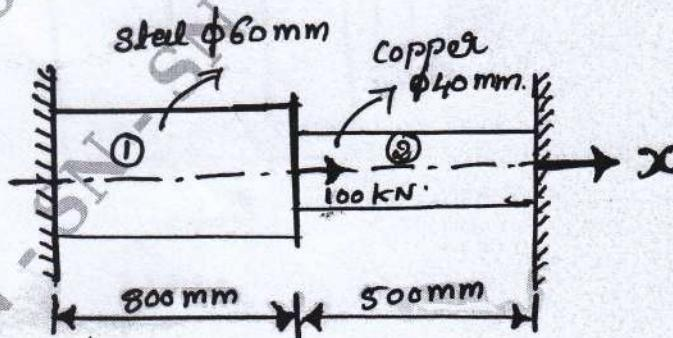

Fig Q3(b)
- b. A compound bar is loaded as shown in Fig Q3(b)  $E_{Steel} = 200\text{GPa}$ ,  $E_{CU} = 100\text{GPa}$ , using elimination method of boundary condition, find